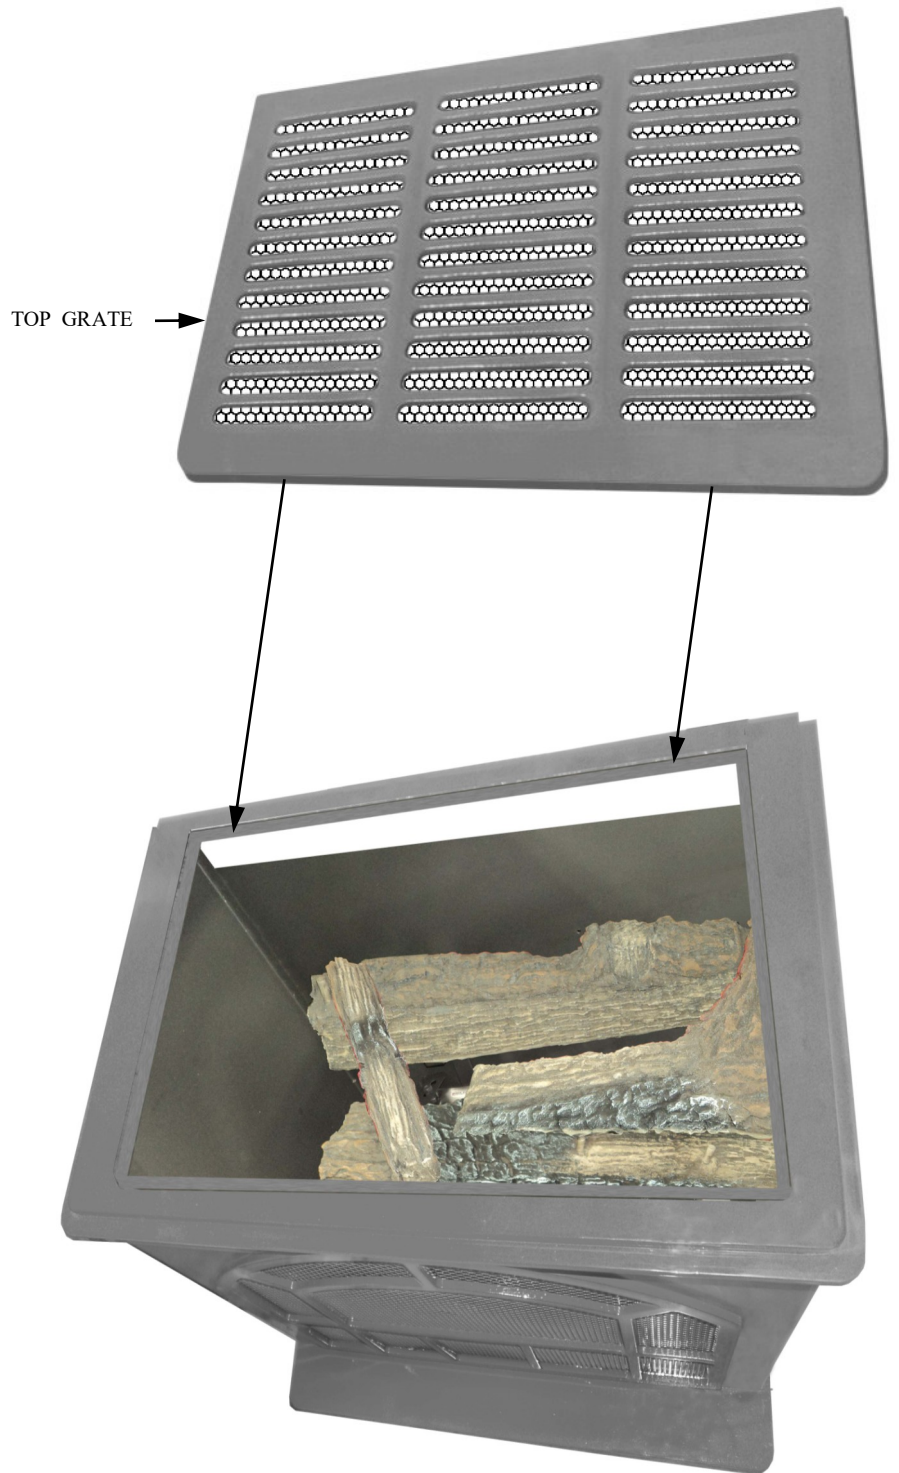

FIGURE 14 - INSTALL TOP GREAT
3. Place the top grate on unit as shown. (See Figure 14).
We also recommend that you keep the burner tube and pilot assembly clean and free of dust and dirt. To clean these parts we recommend using compressed air no greater than 30 PSI. Your local computer store, hardware store or home center may carry compressed air in a can. You can use a vacuum cleaner in the blow position. If using compressed air in a can, please follow the directions on can. If you don't follow directions on can, you could damage the pilot assembly. **NOTE:** For **Townsend II** See (Figure 11, page 12). For **Hepplewhite** See (Figure 14, page 14). Removing access door and top grates of your stove will make cleaning easier.